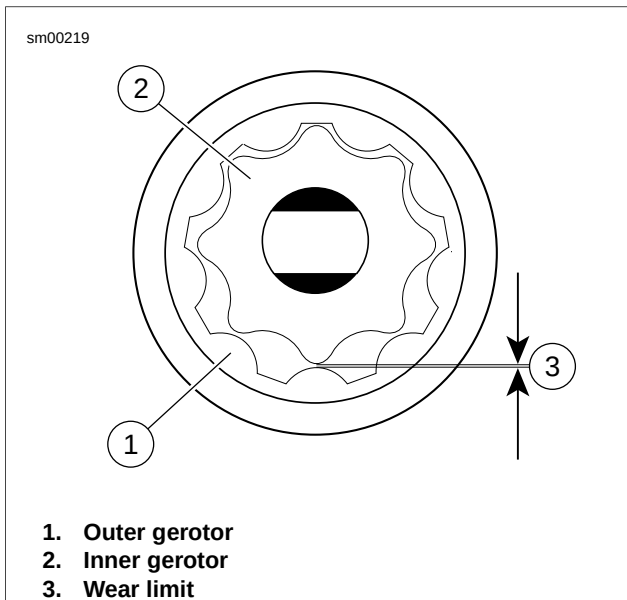

Figure 3-93. Gerotor Wear Limits
2. See Figure 3-93. Inspect both gerotor sets for wear.